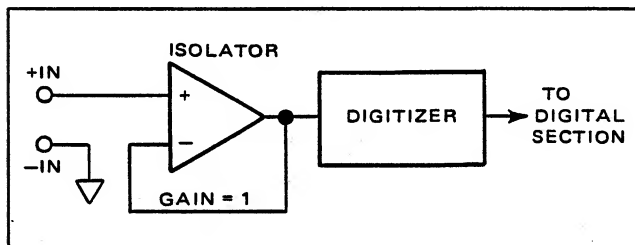

Figure 5.3 - 10 Volt DC Range
5.3.4.3.3 *10 Volt Range.* The signal from the +IN terminal is routed through the contacts of the 100+1000, Ohms, Preamp Select, .1+1 and 100+1000 relays to the positive input of the Isolator. The Isolator output is fed back directly to the negative input (through the normally closed contacts of the .1+1 relay) to obtain a closed loop gain of 1.0. The -IN terminal is connected to analog common through contacts of the Ohms relay. A simplified block diagram is shown in Figure 5.3.